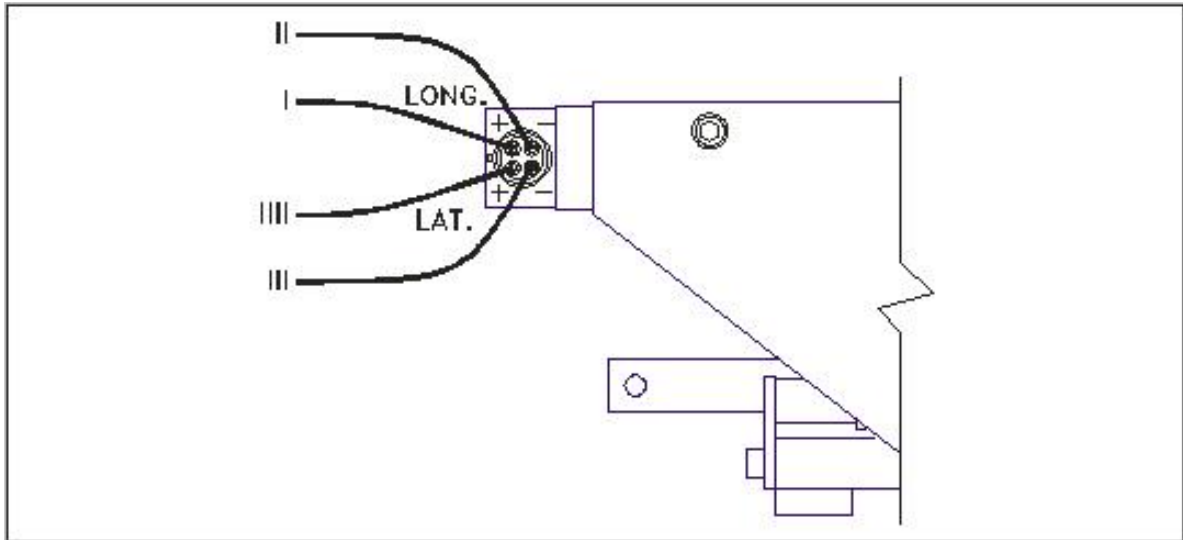

Figure 3-A Coil Wire Reference Code
See figure 3-B
- 4 Sweep Coil Feedthrough** – All sources, except models 221, 508 and 528, have an electromagnetic X-Y sweep coil and need a minimum of a four (4) pin low-voltage feedthrough. Kapton® coated wire is supplied on the standard coil connector Telemark #271-0125-1. Bare OFHC wire is used in the UHV assembly Telemark #271-0125-3. Coil connector assemblies come with two feet of wire standard, optional lengths are available. See figure 3-A for reference code of marked wires when shipped from the factory.